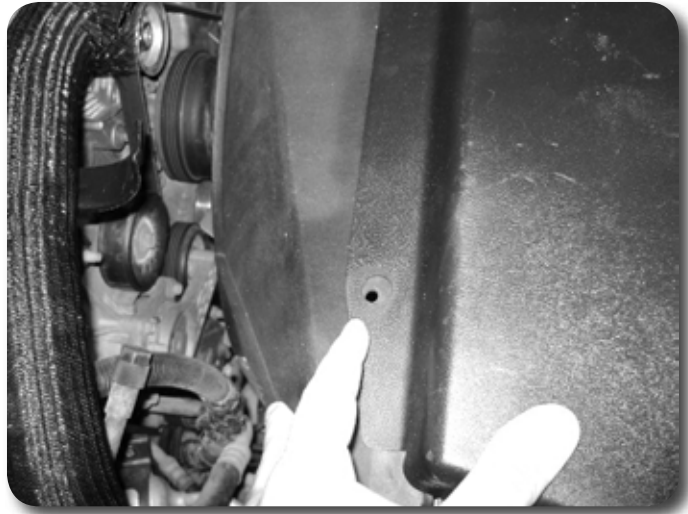

Figure 7
16. Remove the two plastic push-in fasteners holding the fan shroud to the upper shroud covering the area between the radiator and the grill. **Figure 7**